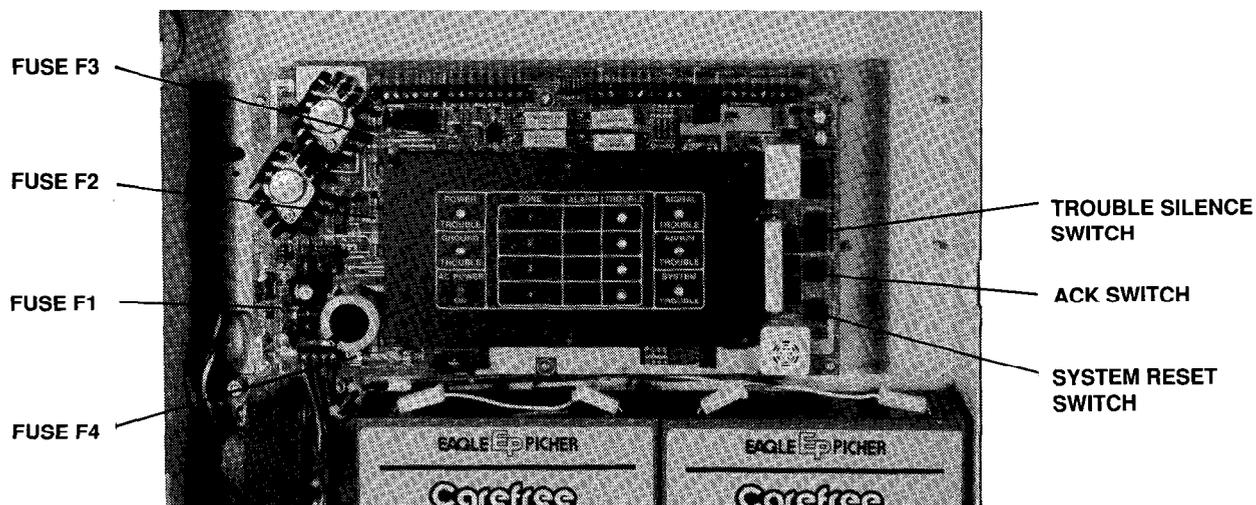

FIGURE 24
2. At large circuit board, check fuses (Fig. 24) and at building's power distribution, check system circuit breaker or fuse.
3. Apply system power and press SYSTEM RESET switch (Fig. 24). Observe panel indicators: